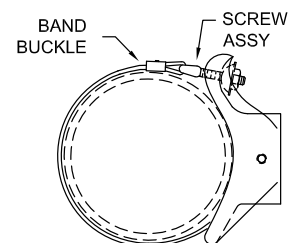

Figure 5
6. Screw nut off screw assembly until it is flush with clamp screw end. Insert screw assembly on clamp pawl. Rotate clamp assembly so it is on the side of the mast arm with clamp screw on the tip side (Figure 5). Tighten nut on screw assembly until it is just snug.